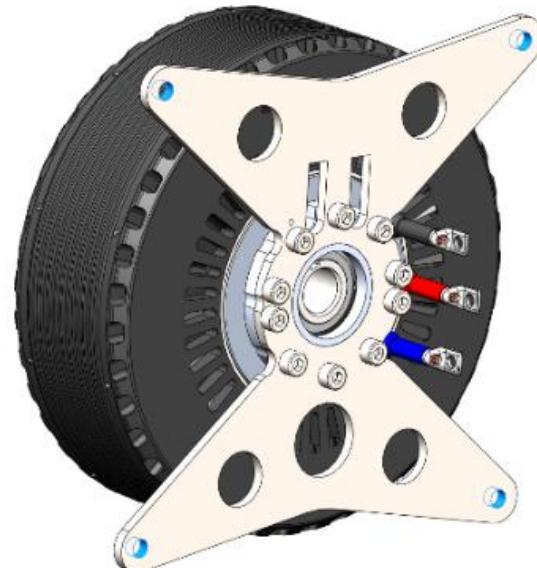

Figure 13: X bracket
- a) a factory X bracket (*Figure 13*) on a firm flat base with 4 bolts (highlighted in blue).